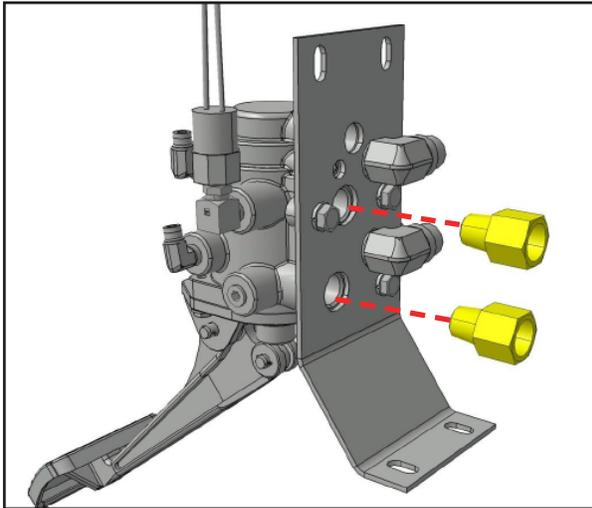

Figure 14: Reinstall the two straight fittings.
17. Place a small amount of Loctite 567 on the threads of the fittings and reinstall the two (2) straight fittings as shown in Figure 14.